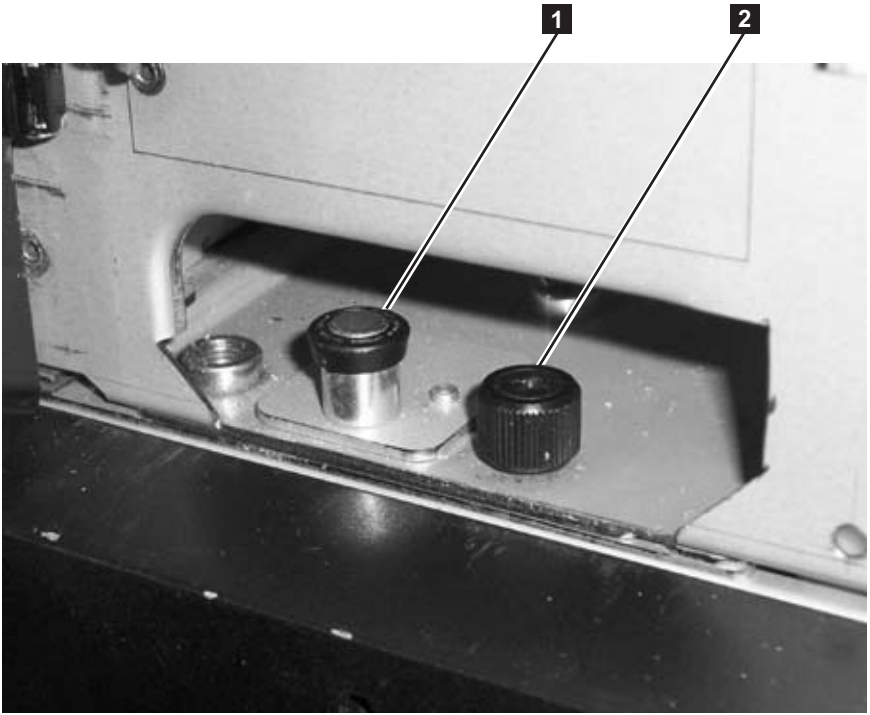

Figure 3-22. Module-to-Module alignment pin and front thumb screw
3. Ensure that the module-to-module alignment pin (**1** in Figure 3-22 on page 3-24) is in the raised position. If necessary, raise the pin and rotate it half a turn to lock it in the raised position.
9. Twist the upper module alignment pin (**1** in Figure 3-22 on page 3-24) to unlock it from the up position.
11. Tighten the front thumb screw (**2** in Figure 3-22 on page 3-24) and the thumb screw behind the I/O Station door to secure the front of the upper module to the lower module.